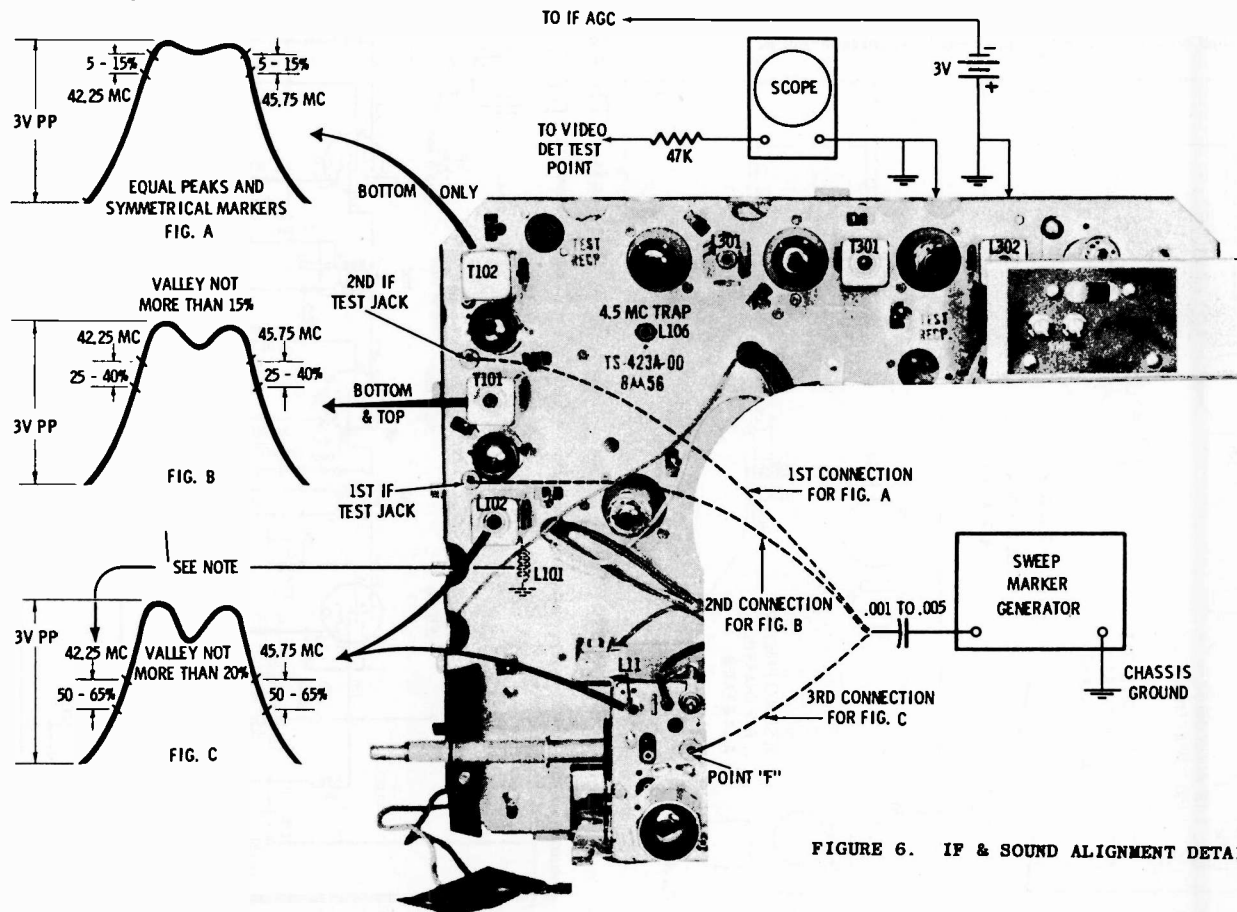

FIGURE 6. IF & SOUND ALIGNMENT DETAIL
2. MOVE...the sweep generator from the 2nd IF TEST JACK and connect it to the 1st IF TEST JACK (see IF & sound alignment detail -Figure 6).